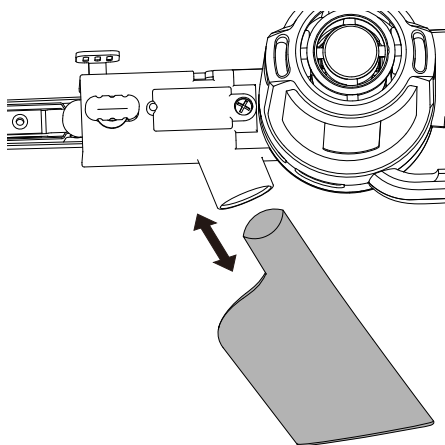

Figure 2
2. INSTALLING OR REMOVING THE DUST BAG (SEE FIG. 2)